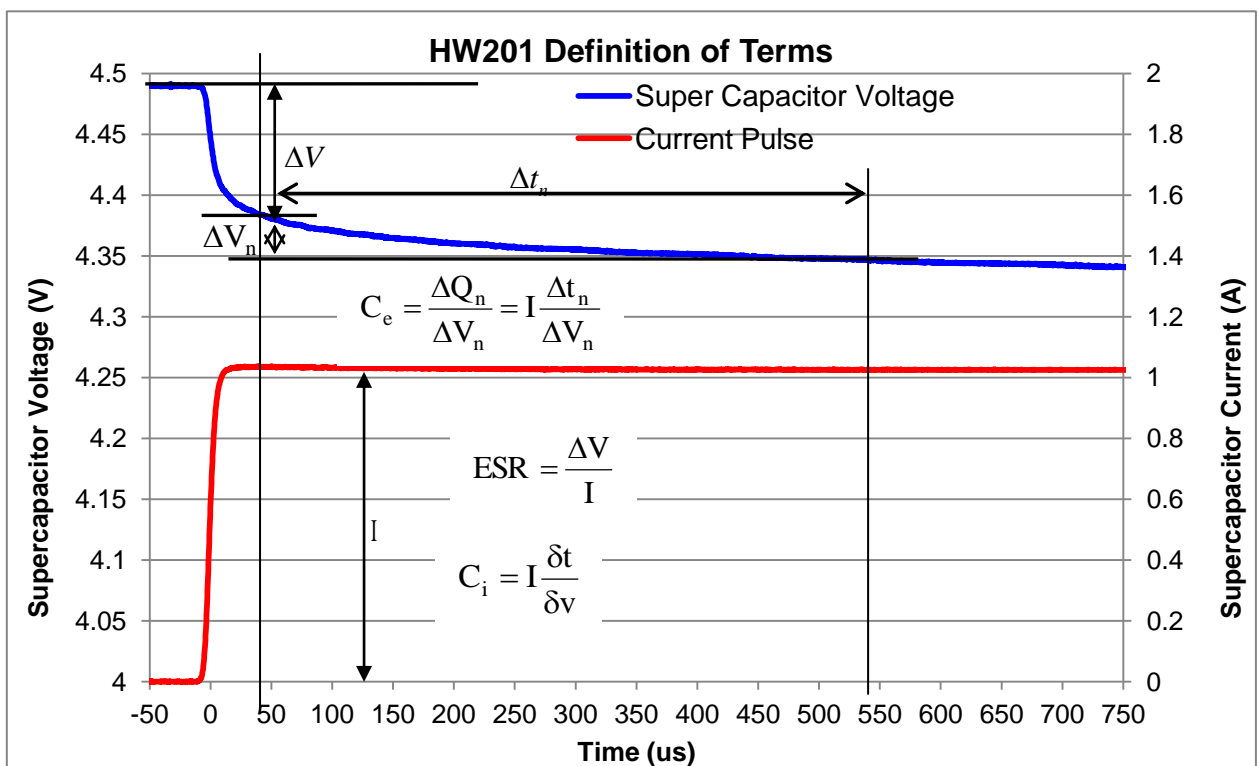

Figure 1: Definitions for Effective Capacitance, Instantaneous Capacitance and ESR
In its simplest form, the Equivalent Series Resistance (ESR) of a capacitor is the real part of the complex impedance. In the time domain it can be found by applying a step discharge current to a charged capacitor as in figure 1. In this figure the supercapacitor is pre-charged and then discharged with a constant current pulse (I). The ESR is found by dividing the instantaneous voltage step (ΔV after 50 μ sec from start of current pulse) by I. The instantaneous capacitance (C_i) can be found by taking the inverse of the derivative of the voltage and multiplying it by I. The effective capacitance (C_e) is found by dividing the total charge removed from the capacitor (ΔQ_n) by the voltage lost by the capacitor (ΔV_n). Note that ΔV , or IR drop, is not included because this is the voltage drop due to ESR. C_e shows the time response of the capacitor and it is useful for predicting circuit behaviour in pulsed applications.
In the example of Fig 1, using an HW201, $4.49V - 4.38V = 110mV$, $I = 1.03A$, so $ESR = 0.11V/1.03A = 106.8m\Omega$. Similarly for $C_{effective}$ at 500μ sec $\Delta V_n = 4.38V - 4.35V = 0.03V$, $\Delta t_n = 500\mu$ sec, and $I = 1.03A$. Therefore, $C = 1.03A \times 500 \times 10^{-6}s / 0.03V = 17.2mF$.